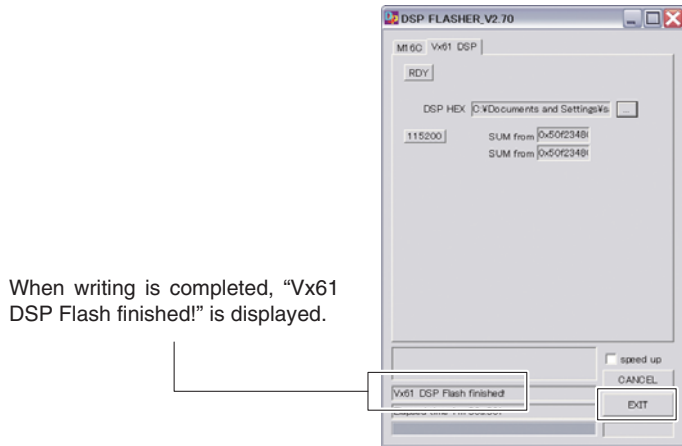

Fig. 5
10. When writing is completed, "Vx61 DSP Flash finished!" is displayed. (Fig. 5)
11. Click [EXIT] to end "DSP_FLASHER Ver2.7.exe". (Fig. 5)